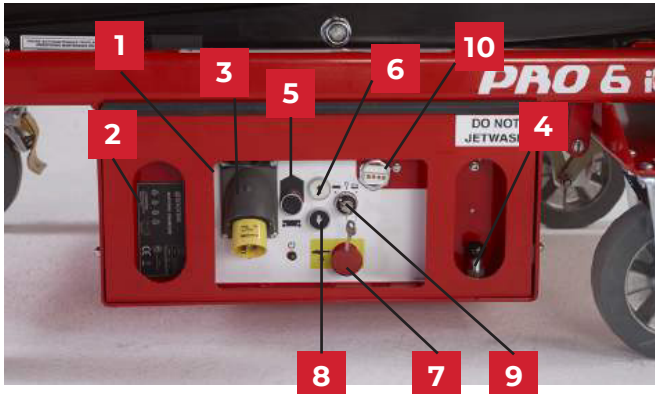

Figure 2 - Lower Controls and Indicators
The lower controls (refer to Figure 2) are located on the right side of the chassis. The following are located on the lower control panel: Emergency stop button, Control selector switch, Ground operation button, Platform raise/lower buttons, Battery charger.
- 5 Press and hold the ground operation button inward. Test each machine function from the lower control station (refer to Figure 2).